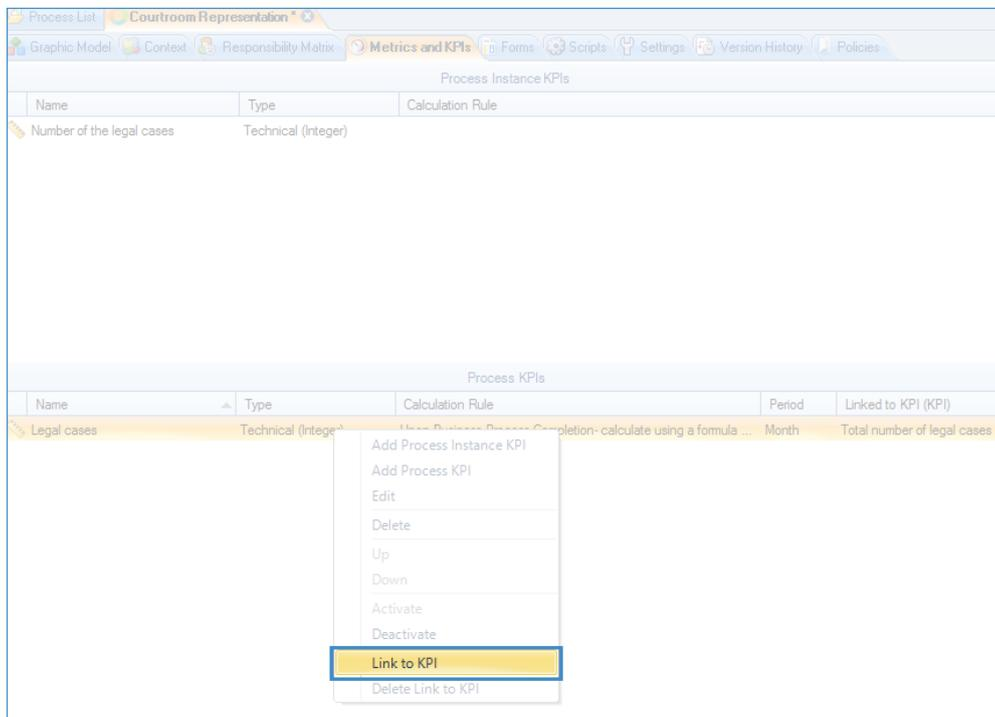

Fig. 40. Using Link to KPI command
- Select the process indicator on the **Metrics and KPIs** tab and select **Link to KPI** in the shortcut menu (Fig. 40).